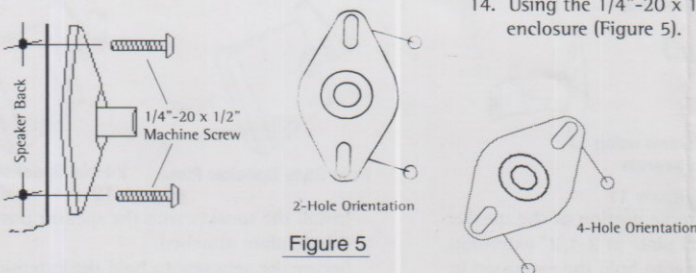

Figure 5
13. Find the best mounting configuration that matches your speaker enclosure. Four-hole speaker mount patterns can be accommodated by positioning the speaker plate diagonally (Figure 5).
14. Using the 1/4"-20 x 1/2" machine screws, install the speaker plate and secure the speaker enclosure (Figure 5).